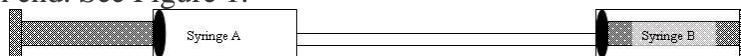

Figure 1. A syringe sub-system.
1. Put together two syringe sub-systems. Define a sub-system as a piece of tubing with a syringe attached at each end. See Figure 1.